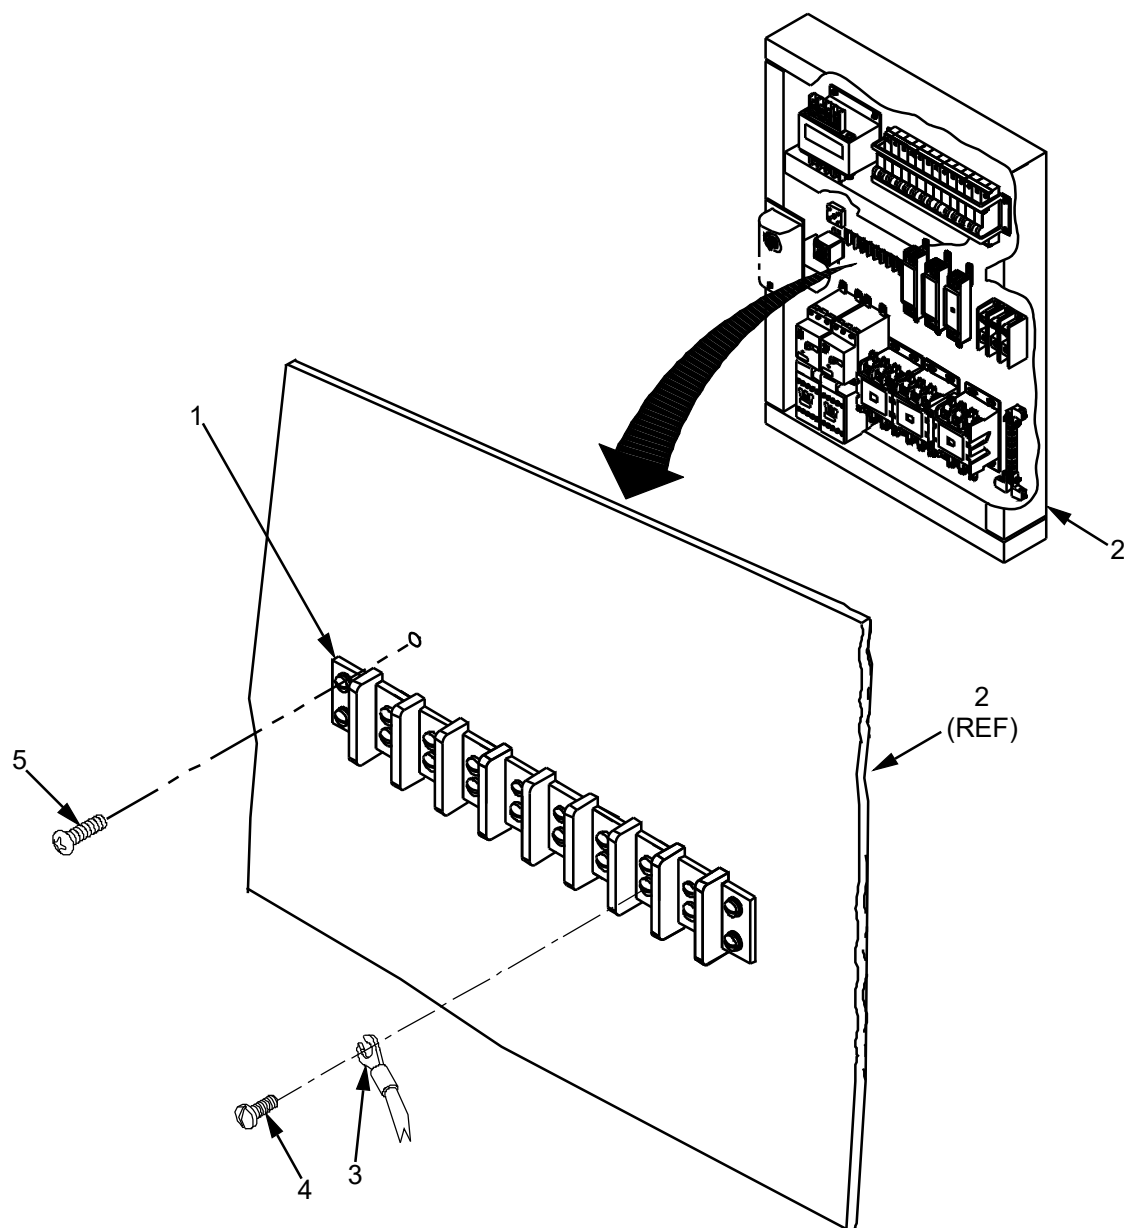

Figure 1. Terminal Board (TB) Removal/Replacement.
3. Verify that all electrical wires (Figure 1, Item 3) connected to the terminal board (Figure 1, Item 1) being replaced are properly identified.
4. Loosen but do not remove terminal screws (Figure 1, Item 4) and remove all electrical connections (Figure 1, Item 3).
5. Remove and retain two screws (Figure 1, Item 5) securing terminal board (TB) (Figure 1, Item 1) to control panel (Figure 1, Item 2). Remove terminal board (TB) (Figure 1, Item 1).
1. Install terminal board (TB) (Figure 1, Item 1) onto control panel (Figure 1, Item 2) and secure using retain two screws (Figure 1, Item 5).
2. Loosen but do not remove terminal screws (Figure 1, Item 4). Connect electrical wires (Figure 1, Item 3) and tighten terminal screws (Figure 1, Item 4).